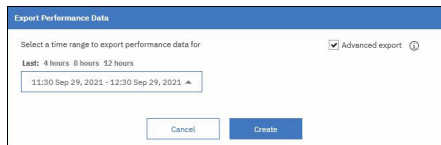

Figure 9-57 Spectrum Control - Export Performance Data - Advanced Export
To include volume data and 1-minute sample data, select the **Advanced export** option (see Figure 9-57 on page 427) when you export performance data.
- 4. Click **Create** (see Figure 9-57).